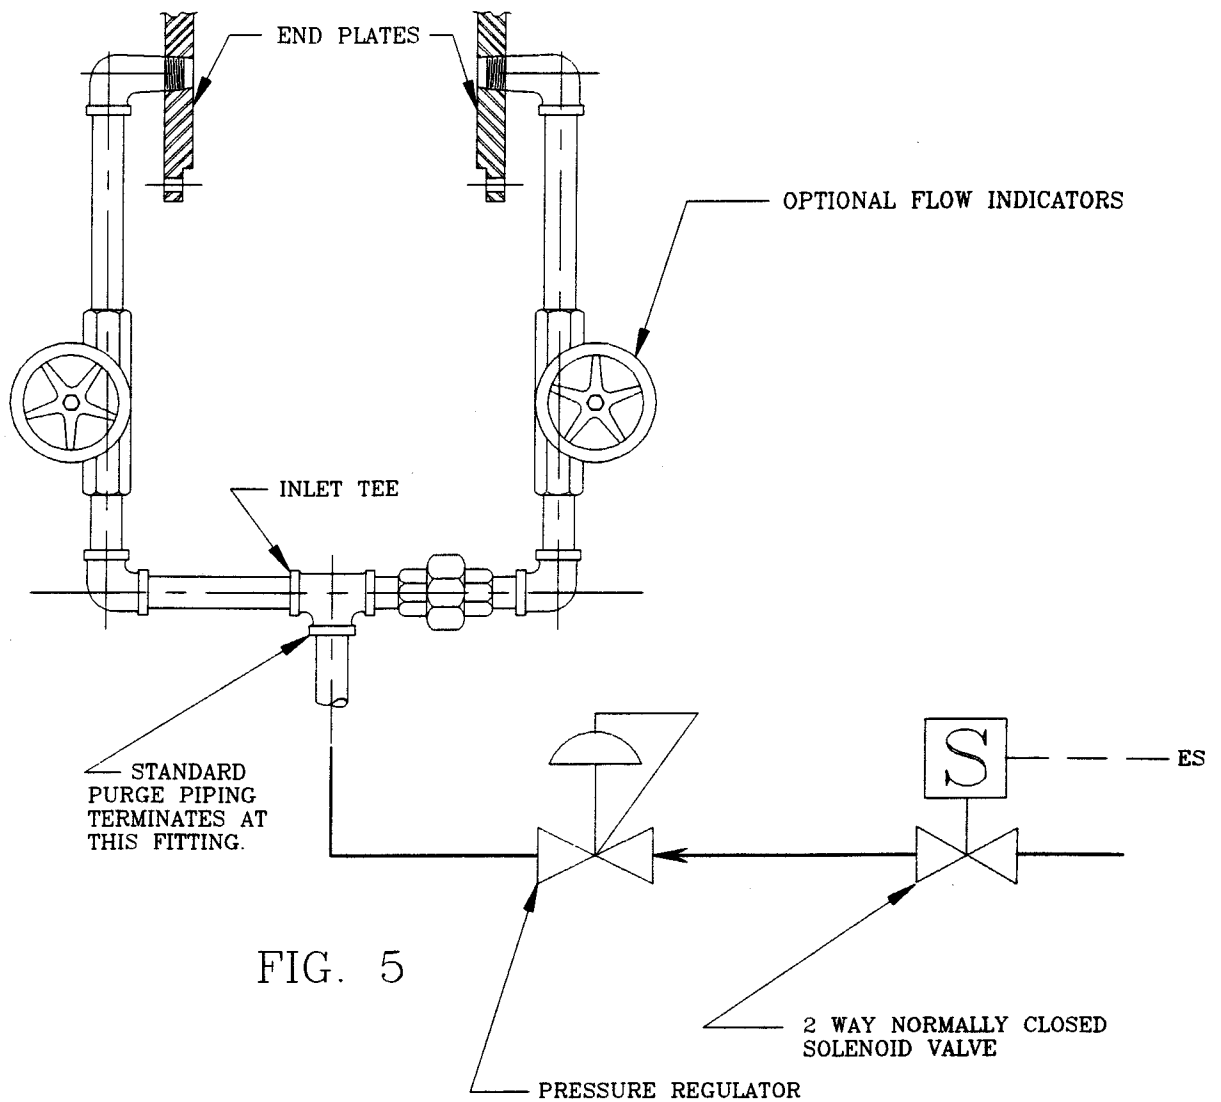

FIG. 5
The main purpose of the rotor seal purge is to pressurize the seal. The seal is designed so that the internal pressure in the valve will work against the inward facing lobe of the seal forcing it against the housing. To insure that the rotor seal is most efficient, there should be slightly greater pressure against the outward facing lobe. This is done by applying pressure to the piping leading into the valve end plates (see Fig. 5). This pressure must be regulated to approximately two (2) to five (5) psig above the conveying pressure.
It is recommended that the optional flow indicators shown in Fig. 5 be installed to monitor the condition of the seals. With the seals properly installed and functioning there should be no appreciable passage of air or gas past the seals. Due to the passage of time and wear, the seals will need to be replaced. The flow indicators are helpful in determining when seal maintenance may be required. When the seals are worn, they should be replaced as soon as possible but in the interim, the higher pressure of the purge should help retard the migration of fines or powder into the void area between the rotor end bells and the valve end plates.